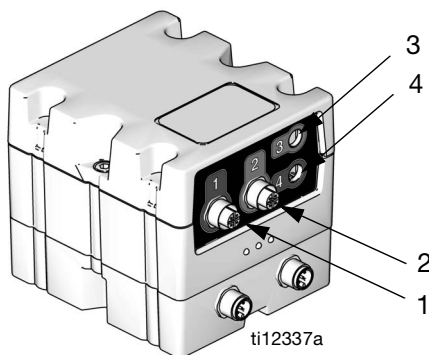

FIG. 12: Fluid Control Module Front Connections
2. Remove two screws (C) and FCM (A) from base (B).
3. Mount base (B) to system with four screws. Insert screws through top of base and tighten to system.
4. Mount FCM (A) on base (B) with two screws (C).
5. Connect cables to front of fluid control module. See FIG. 12 and the following table.